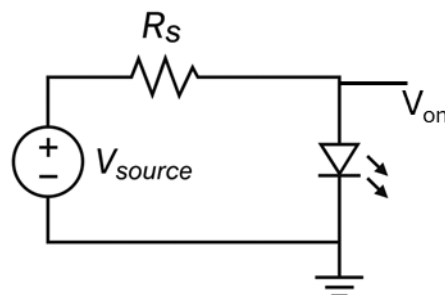

Figure 3: Setup for calculating LED voltage and Current
1. Perform a quick characterization as needed to obtain information about MOSFET properties (threshold voltage, operating regions etc.). You should do this by setting circuit shown in figure 3, $V_{DD} = 5V$ and Varying V_{in} from 0 to 5V. Identify the region where you see a swift change in V_{out} . You may note down the values of V_{out} in that region (V_{in} 1 to 2V). Do this for figure 4a and 4b. Label each of the MOSFET as M2 and M1 and keep track of it, as different MOSFET can be performing in slightly different regions. Small change in the input voltage can have a large effect on the output voltage.